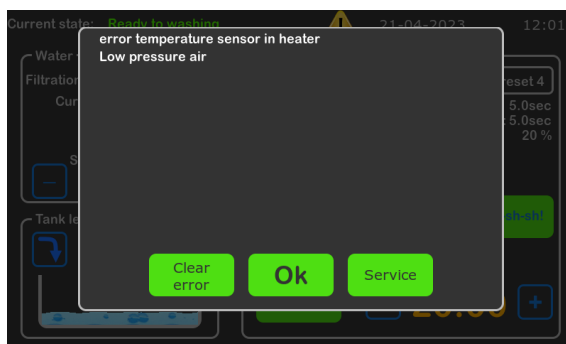

Figure 11
**3** – Warning sign indicating module malfunction. Pressing the sign displays errors causing the malfunction (see Fig. 11).
The information window (Fig. 11) displays a list of detected errors. After resolving them, errors can be cleared with the **"Clear error"** button, allowing the module to continue its function. This window also provides access to the service menu.